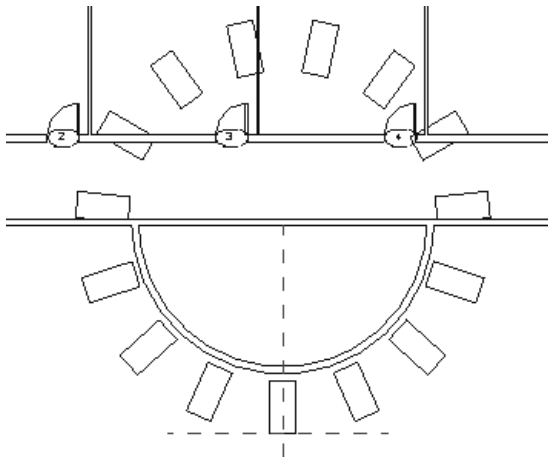

Figure 2-50
5. Return to the Options Bar and set the *Angle* to **360**. Press <Enter>. The array displays as shown in Figure 2-50.